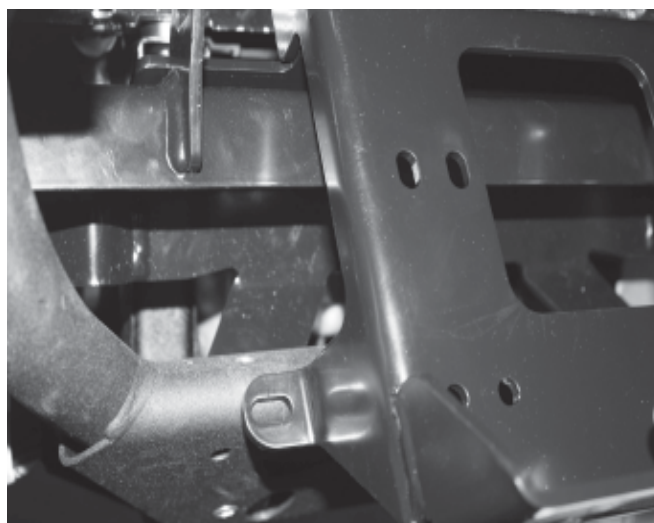

Figure 9
- If installing the winch mounting plate with the Warn front plow mounting plate, place the front plow mounting plate into the frame as shown in figure 9. Tilt the front plow mounting plate forward and slip the winch mounting plate rear flange behind the plow mounting plate. Both mounting plates will then slip into place.